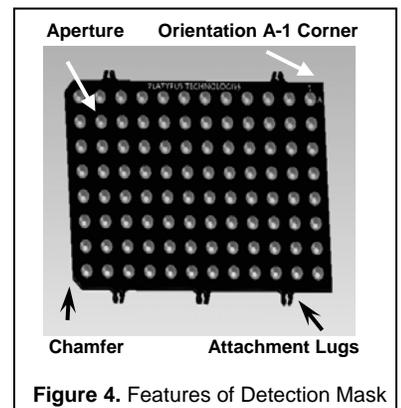

Figure 4. Features of Detection Mask
- Orient the chamfered corners of the mask with those of the 96-well plate, ensuring that the A1 corner of the mask (see Figure 4) is aligned with the A1 well of the plate.